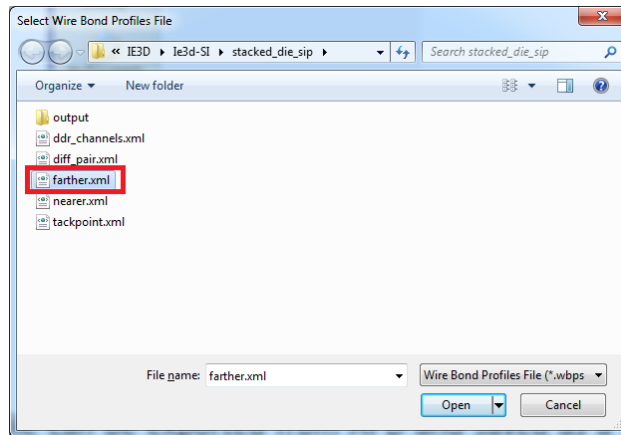

Fig. 7 Bond Wire Profile File
7. Select the bond wire profile as shown in Fig 7.